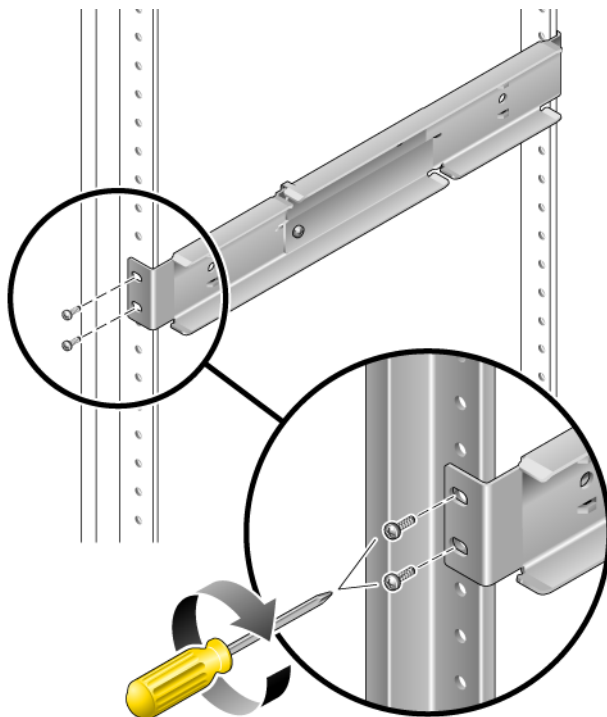

FIGURE 2-16 Securing the Front of the Adjustable Rails to the Rack
3. Lift one of the adjustable rails to the desired location in the rack. Using two screws, secure the front of the adjustable rail to the rack (FIGURE 2-16).